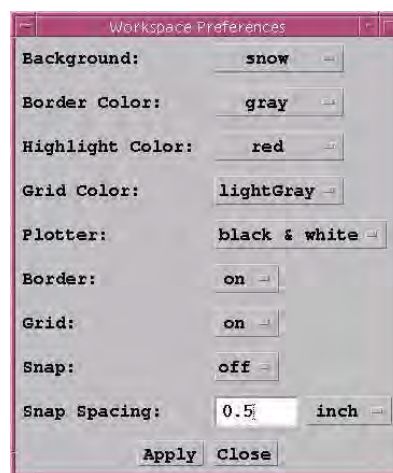

Figure 70. Window Preferences Panel
1. Click on **Preferences** in the main menu, then **Set Up** to open the Workspace Preferences panel shown in Figure 70.